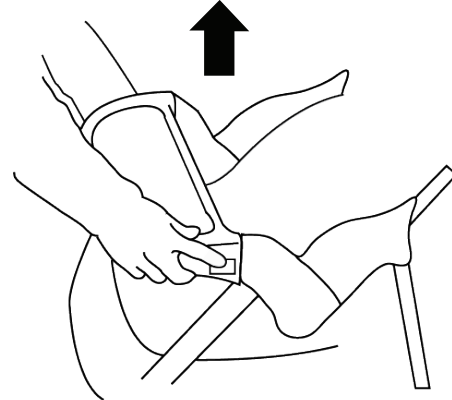

Fig. 6C
12. To remove the child tray: Press the right and left release buttons and pull upward on child tray (Fig. 6C).